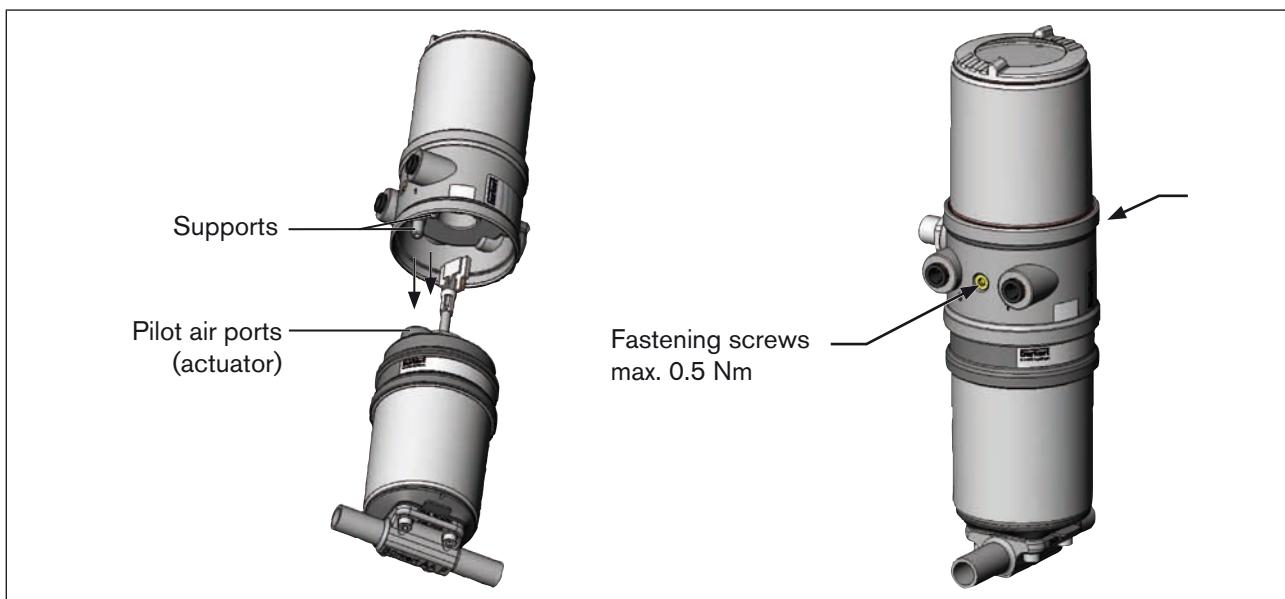

Figure 16: Installation of the positioner
2. the supports of the positioner can be inserted into the pilot air ports of the actuator (see also "Figure 16").